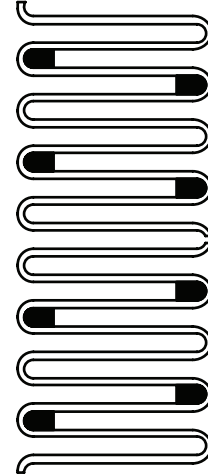

Figure 3 - Coil Spacers for sizes 1100 through 1600T
C. Sizes 1100 through 1160T – Insert coil spacers in every other coil as shown in Figure 3. Remaining coil spacers should be distributed evenly among any open coils.